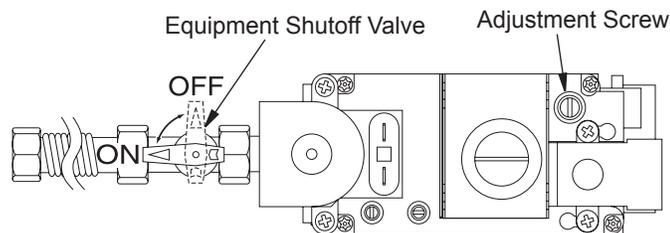

Figure 49 - Turning Equipment Shutoff Valve to the OFF Position
5. Turn equipment shutoff valve clockwise  to the OFF position (see Figure 49). Do not force.
6. Wait five (5) minutes to clear out any gas. Then smell for gas, including near the floor. If you smell gas, **STOP!** Follow "B" in the safety information above. If you don't smell gas, go to the next step.
- Turn the adjustment screw marked PILOT clockwise to decrease or counterclockwise to increase the flame to proper size (see Figure 49, page 22). Do not remove the adjustment screw.